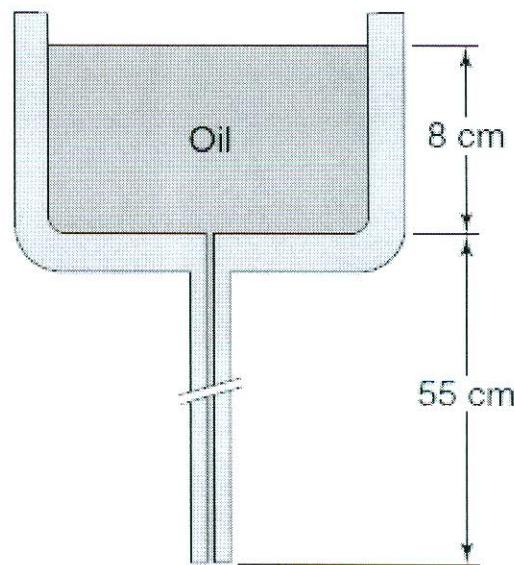

Figure 4 - A viscometer
- [b] A common type of viscometer for liquids consists of a relatively large reservoir with a very slender outlet tube (Figure 4), the rate of outflow being determined by timing the fall in the surface level. If oil constant density flows out of the viscometer shown at the rate of  $0.273 \text{ cm}^3/\text{s}$ , what is the kinematic viscosity of the fluid? The tube diameter is 0.18 cm.